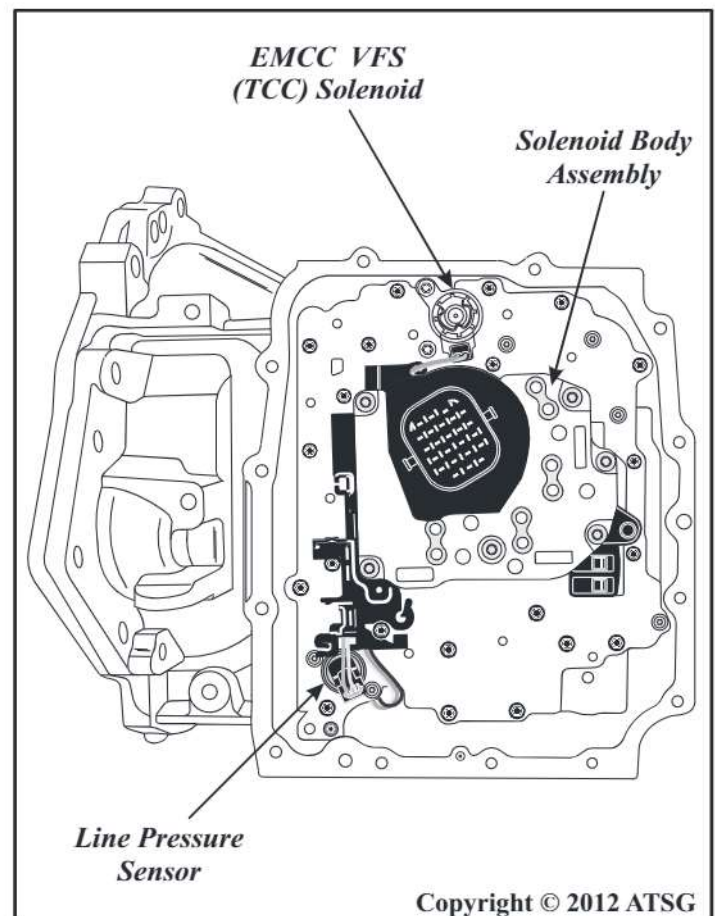

Figure 21
The 41TE transmission was operated using only four clutch control solenoids; the UD, L/R, 2/4 and OD. The 62TE uses the same 4 solenoids, as well as four additional solenoids. Direct Clutch Solenoid (DC), Low Clutch Solenoid (LC), a Pressure Control (PC) VFS Solenoid and an Electronically Modulated Converter Clutch (EMCC) VFS Solenoid were added. Solenoid description and function has been provided here, and notice that the 2/4 solenoid is a "Double Duty" solenoid. The EMCC solenoid, bolted directly to the valve body, is the only one that is serviced separately. The remainder are serviced only with a complete solenoid body, as shown in Figure 21.
Line pressure is electronically controlled by the PCM/NGC and is measured by the Line Pressure Sensor (transducer). LP sensor is bolted on the valve body assembly, as shown in Figure 21.
The desired line pressure is continuously being compared to the actual line pressure and is regulated by changing the duty cycle of the Pressure Control Solenoid located *inside* the solenoid body, as shown in Figure 21.